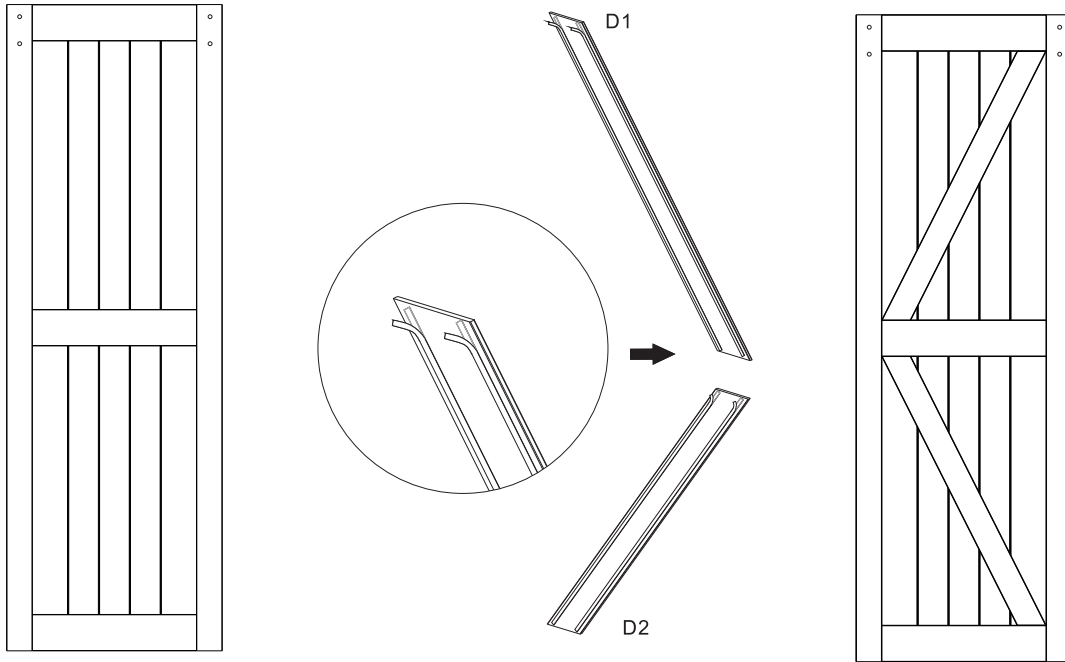

Fig 4
1. As shown in figure 4, remove the release liner of the tape and adhere **K Diagonal Overlay [D1]** and **K Diagonal Overlay [D2]** onto the assembled door.